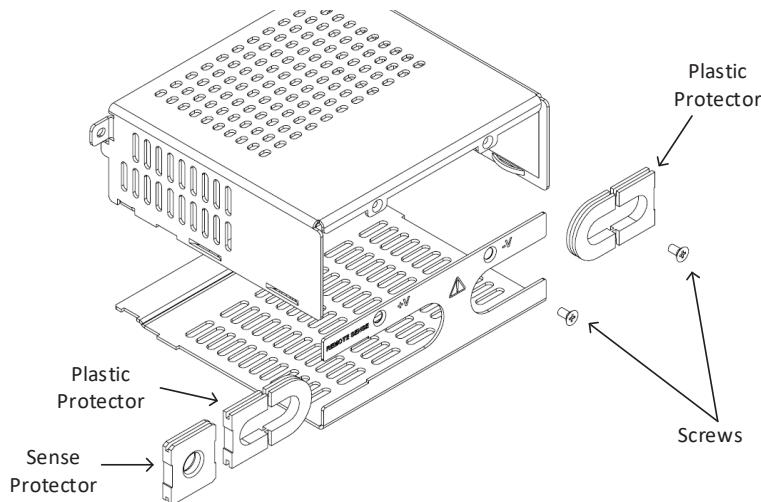

Figure 4-49: Disassembly of Output Protection (7.5kW)
- Open the output protection assembly (supplied in the accessories kit) by unscrewing the screws in the rear side as shown in Figure 4-49. Remove both plastic protectors and sense protector.